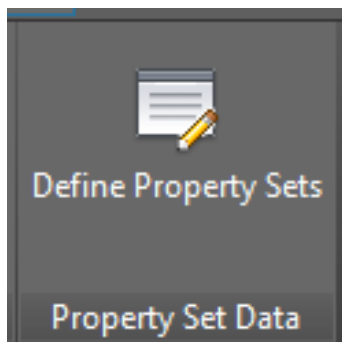

Figure 2
- First, launch the PropertySetDefine command, or from MANAGE tab on the ribbon, to the far right, select DEFINE PROPERTY SETS (Figure 2).